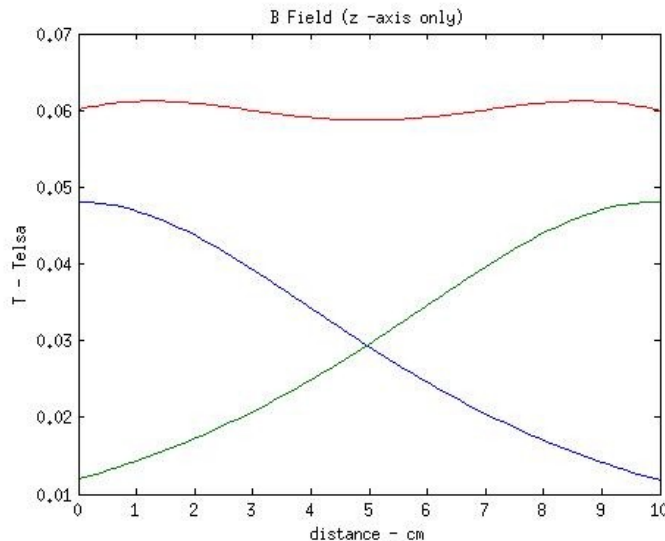
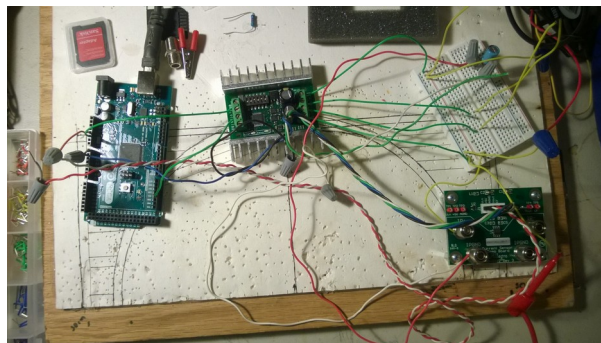

Figure 1 – Magnetic Field between two coils (operating area center at 5 cm mark)
Figure 2 – First attempt to built current control coil hardware. Breadboard-mounted resistor is the “coil.”
- Inventory all parts on hand and tack down any missing order items. Still missing Arduino Mega. Unit in Figure 2 is a my own hardware.
- **Deliverable 1:** Setup a control loop for current coils. This consisted of a current controller, a micro-controller and a coil (or some kind of restive load). See photo (Figure 2) of setup.
- I generated figure 1 (see below) and built figure 2